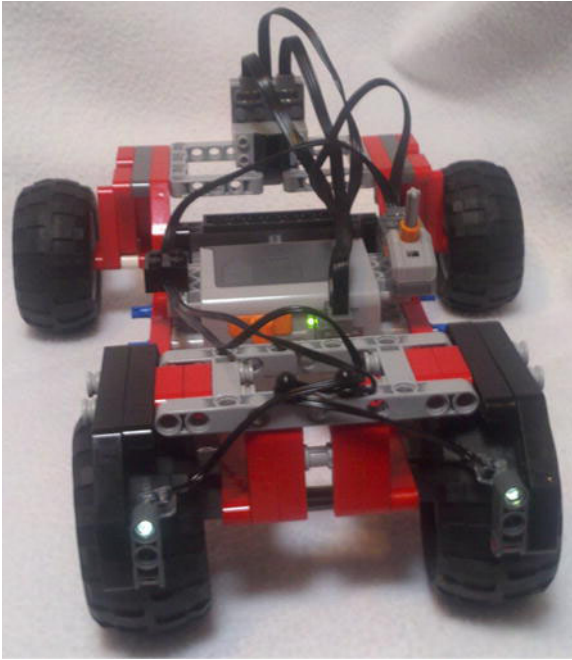

Figure 4-8. The pieces that you will need for setting up the lights in Figure 4-7.
6. Finally, the 3M Cross Blocks are held onto the Double Angle Beams with 2M Axles, and they form the frames to insert the LEDS. You can see what pieces you will need and where to put them in Figure 4-8.